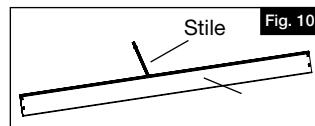

Fig. 10
- Using the tapered end of the stile, slide into the slit of the middle rail at an angle (Fig. 10)